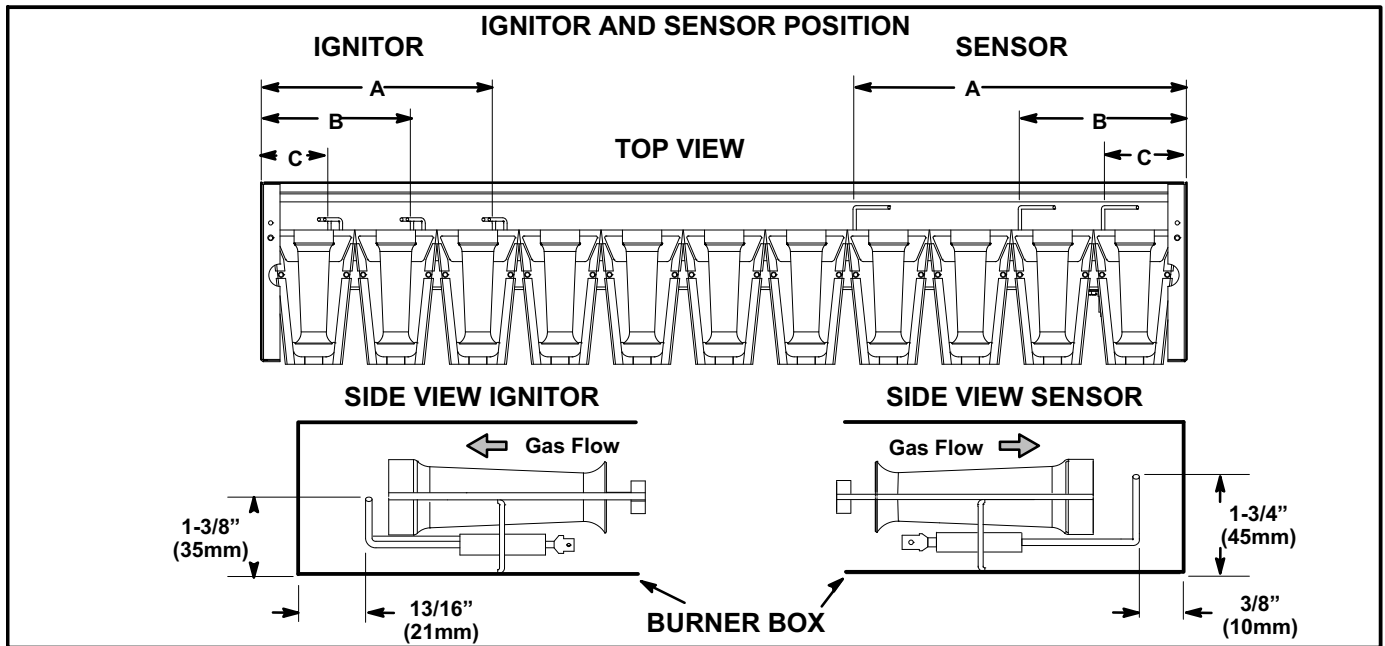

FIGURE 36
- 5- Check the alignment of the ignitor and the sensor as shown in figure 36 and table 28.